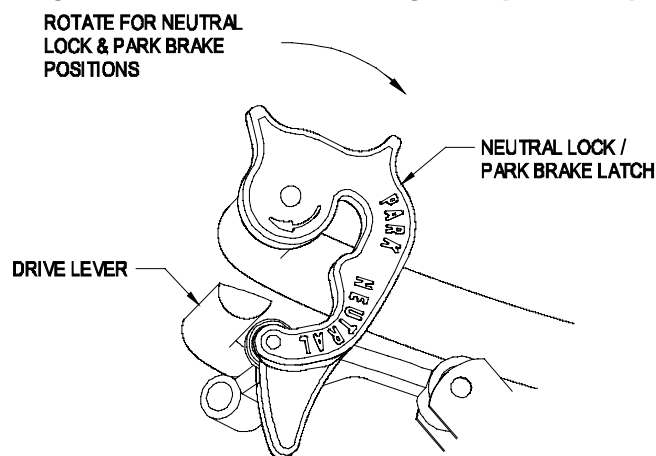

FIGURE 9
- 4.1.2 Drive Levers: Located on each side of the upper handle assembly directly below the handle grips. See Figure 9. These levers individually control the clutching action of the wheel drive belts and the brakes. When the drive levers are all of the way out, the brakes disengage and the wheel drive belts engage.
- 4.1.3 **Neutral Lock/Parking Brake Latch:** Located at the end of the handles. The purpose of these latches is to allow the operator to lock the drive levers in a "neutral" position where neither the wheel drive belts nor the brakes engage, or in a "park brake" position where the wheel drive belts are not engaged and the park brake is engaged. (See Figure 9).